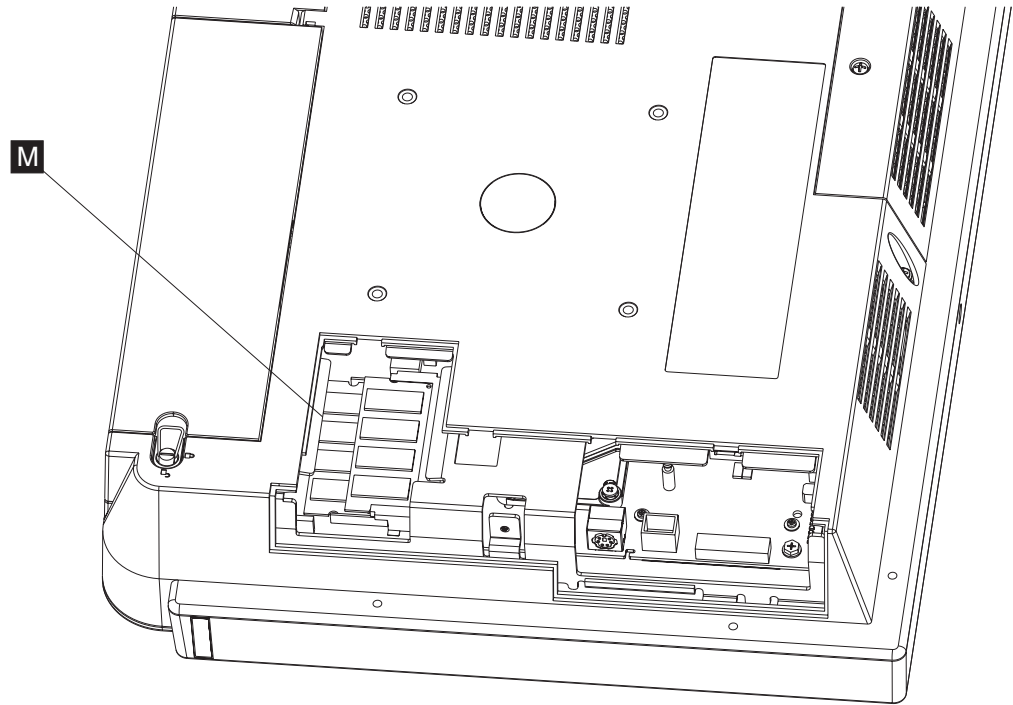

Figure 13. Installing additional memory
3. Refer to the existing memory card position for reference (**M** in Figure 13). Insert the memory card into the memory connector.